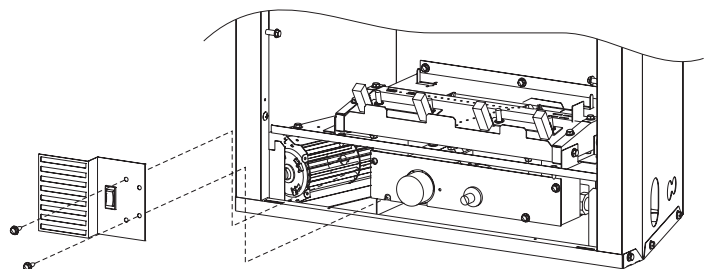

Figure 29
28. Replace burner assembly [four (4) 10 x 1/2" screws].
29. Remove 10 x 1/2" screw (if present) located on left, front of valve cover on burner assembly. Insert blower shield front adjacent to blower motor and blower shield side. Align clearance hole on blower shield front with left, front screw hole on valve cover. Attach blower shield front to valve cover with two (2) 10 x 1/2" screw. See Figure 29.